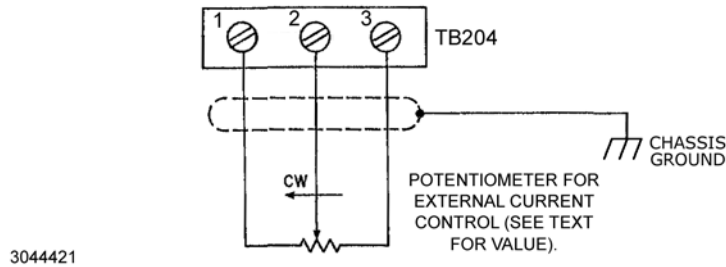

FIGURE 4. POTENTIOMETER CONTROL
GENERAL. The output current of the JQE full rack Power Supply can be externally controlled by connecting a potentiometer to the three terminals on the barrier-strip (TB204) as shown in FIG. 4. The value of the control potentiometer is 1k Ohms for all full rack models. The external current control potentiometer must be a high-quality precision unit if accuracy and stability are required. When adjusting the external potentiometer between zero (referenced to the end connected to TB204 terminal 3) and approximately 840 Ohms (5% tolerance at terminal 2), the output current will change between zero and I_O max values. Above approximately 840 Ohms the output current will be clamped to the internal maximum current limit value (see PAR. A-2 (B) for adjustment). See PAR. A-2 (A) for zero current adjustment.